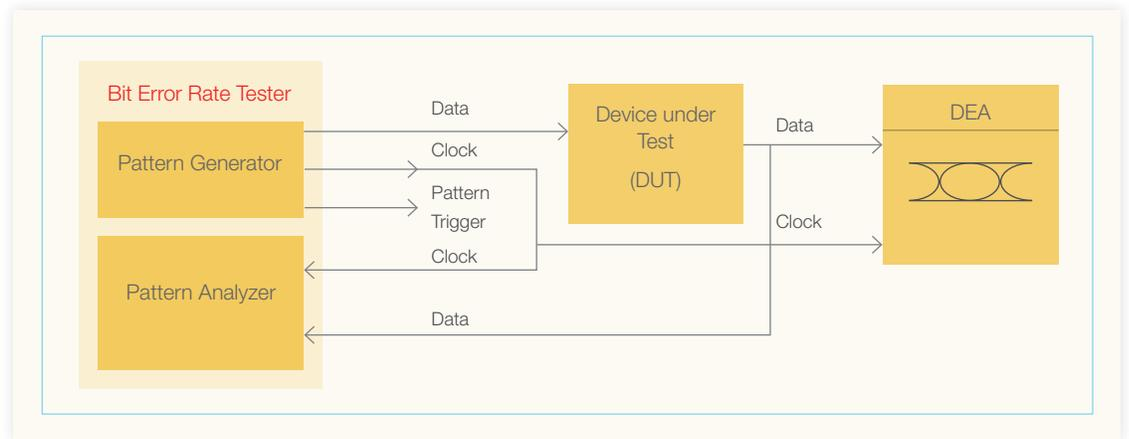

Figure 3.1.1: Serial-in-serial-out DUT testing
**3.1: Serial-in-serial-out Systems:** For serial-in-serial-out systems, typically a Bit Error Rate Tester (BERT) is used along with a DEA scope as shown in Fig 3.1.1. The Bit Error Rate Tester generates a pattern and also provides serial clock along with a pattern trigger. The pattern trigger provides a pulse signal, which indicates the start of a pattern. The Device Under Test (DUT) takes the data from the BERT's Pattern Generator, and the output of the DUT is fed into the BERT. While the BERT tests the error rate, other analog properties of the DUT's output are best tested with a DEA, which can measure jitter, rise/fall time, eye mask, etc. If there is any issue with DUT, the troubleshooting is performed by the scope. Most BERTs do not provide enough insight to troubleshoot or thoroughly characterize the DUT.